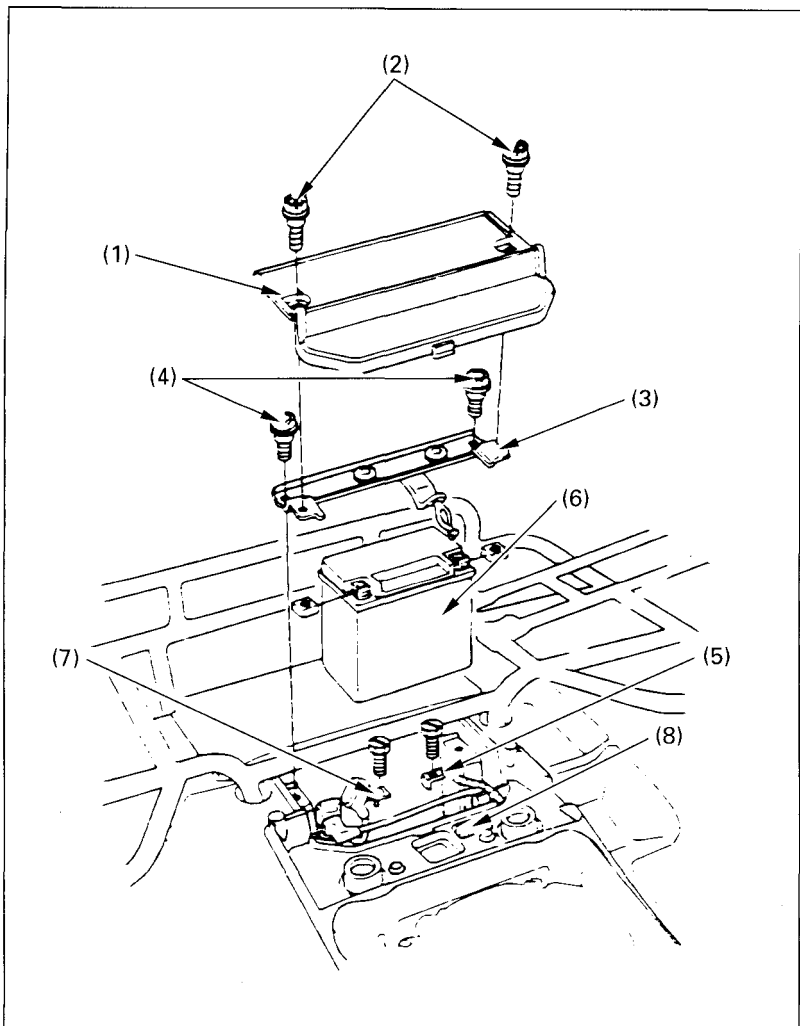

Fig. 4-18
3. Remove the battery box cover (1) by removing the mount bolts (2).
4. Remove the battery holder (3), (Fig. 4-18) by removing the mount bolts (4).
5. Disconnect the negative (-) terminal lead (5) from the battery (6) first, then disconnect the positive (+) terminal lead (7).
- * After installing the battery, check to see if the battery cables are routed correctly as shown on the label (8).